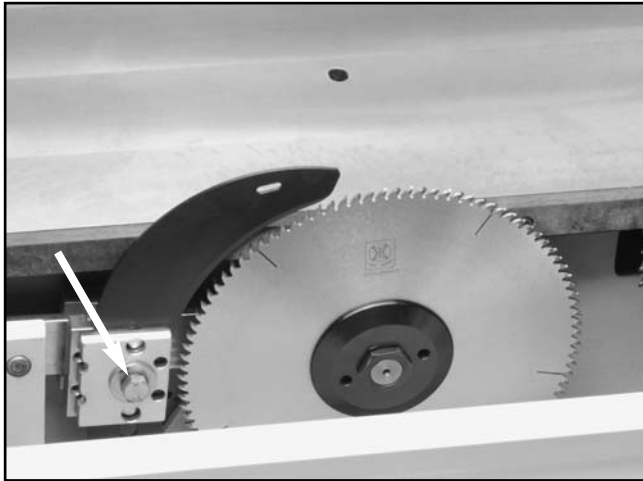

Figure 84. Center bolt in mounting assembly.
5. Remove the center bolt (**Figure 84**) in the mounting assembly to remove the mounting plate.